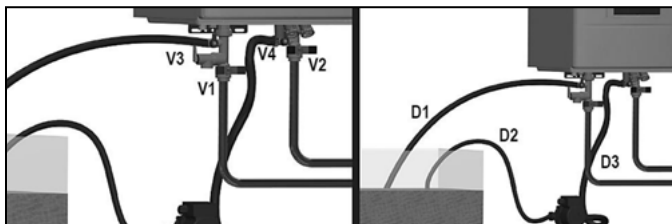

Figure 72 - Flushing the Water Heater
2. Close the shutoff valves on both hot water outlet and cold water inlet lines (V1 and V2). See Figure 72.
3. Connect one hose (D1, Figure 72) to the valve (V3) and place the free end in a bucket. Connect one of the hoses (D3) to the circulation pump outlet and the cold water inlet line to valve V4. Connect the other hose (D2) to the circulation pump inlet and place the free end in the bucket.